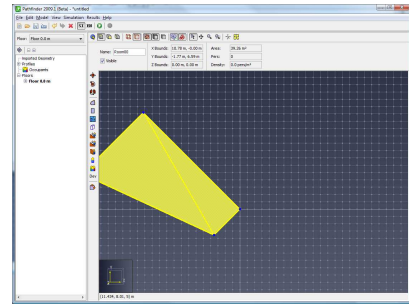

Figure 120. Rotated object
- The third defines a second vector extending from the rotation base (Figure 120). The rotation angle is the angle between these two vectors.